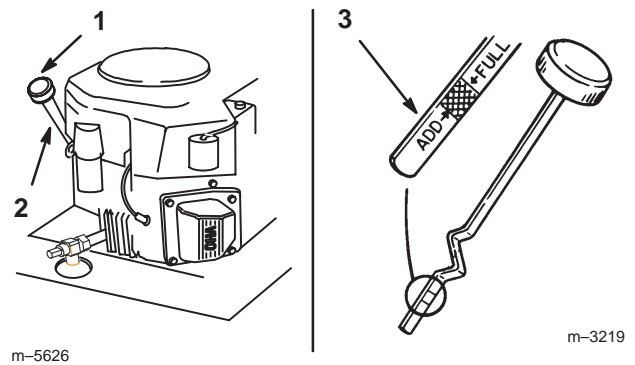

Figure 31
2. Clean around the oil dipstick (Fig. 31) so that dirt cannot fall into the filler hole and damage the engine.
3. Unscrew the oil dipstick and wipe the metal end clean (Fig. 31).
4. Slide the oil dipstick fully into the filler tube. Do not thread it onto the tube (Fig. 31). Pull the dipstick out and look at the metal end. If the oil level is low, slowly pour only enough oil into the filler tube to raise the level to the full mark.
5. Slowly pour approximately 80% of the specified oil, page 29, into the filler tube (Fig. 31). Now check the oil level; refer to Checking the Oil Level, page 29. Slowly add additional oil to bring the level to the full mark on the dipstick.